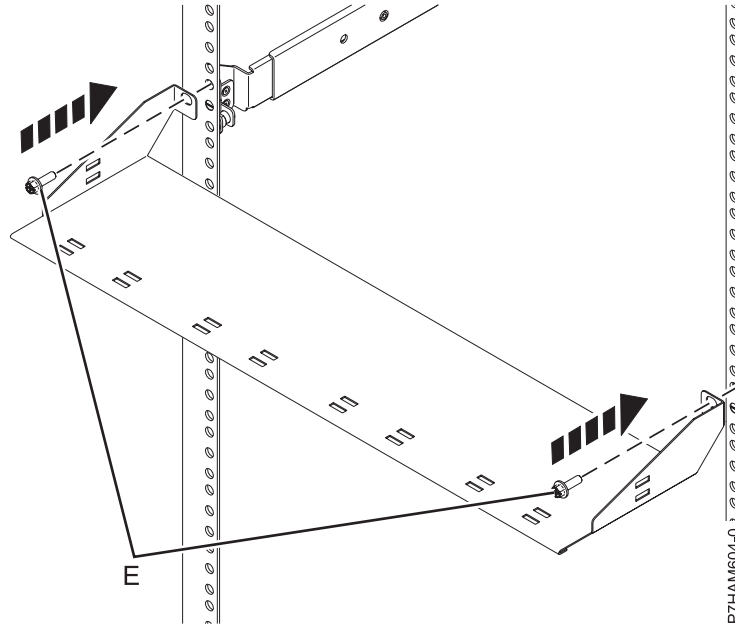

Figure 11. Mounting the cable management bracket
- g. At the rear of the rack, hold the cable management bracket up to the rear rack flanges, aligning the bracket mounting holes to the top holes of the EIA that contains the enclosure, as shown in Figure 11 on page 12. Apply the M5 screws (E) through the mounting holes of the bracket and into the top EIA holes on the rack flanges.